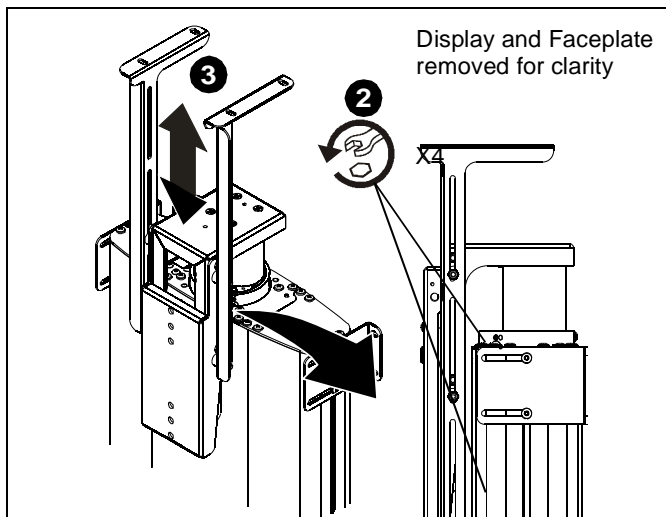

Figure 12
- Slide shelf adjustment brackets upward until top of brackets are positioned higher than top of display. (See Figure 12)